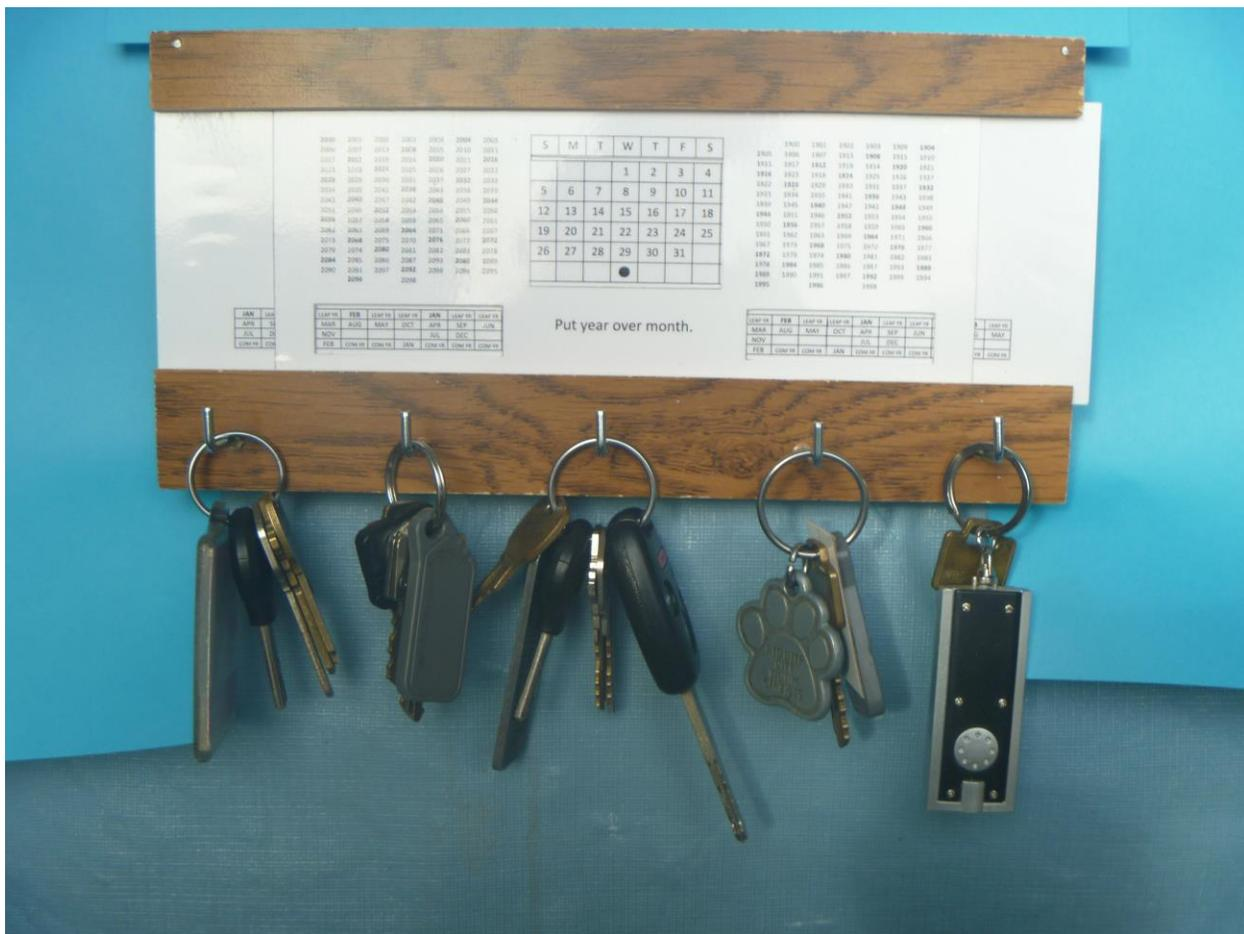
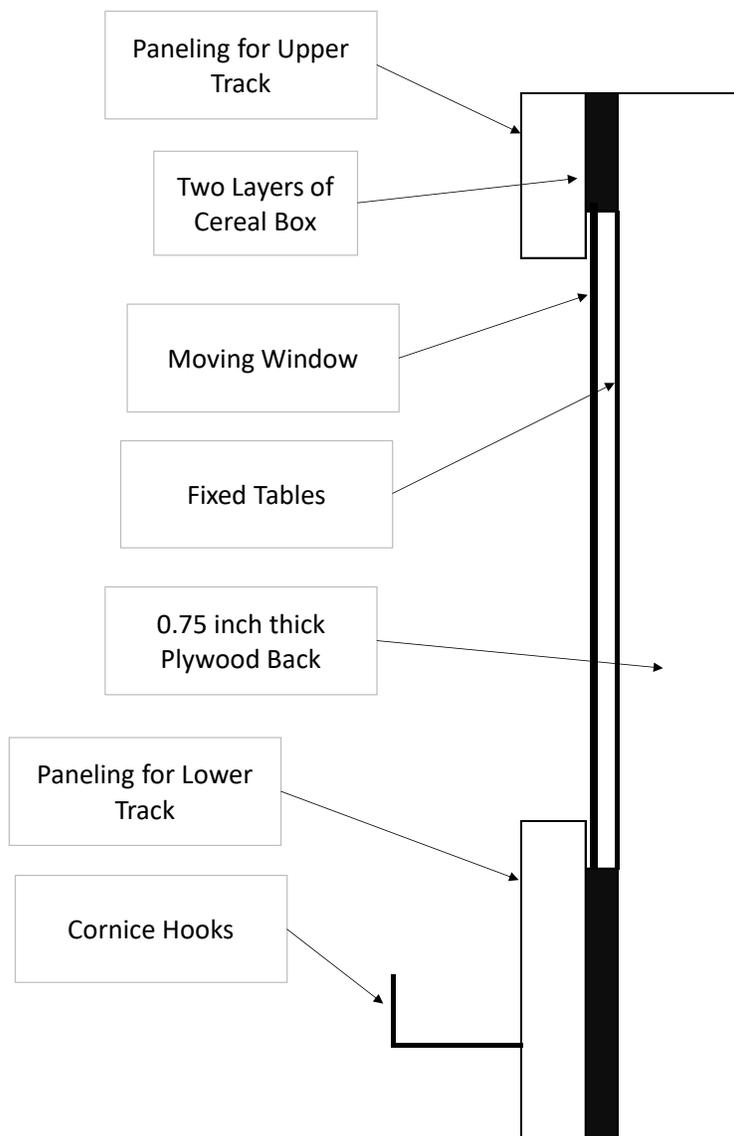
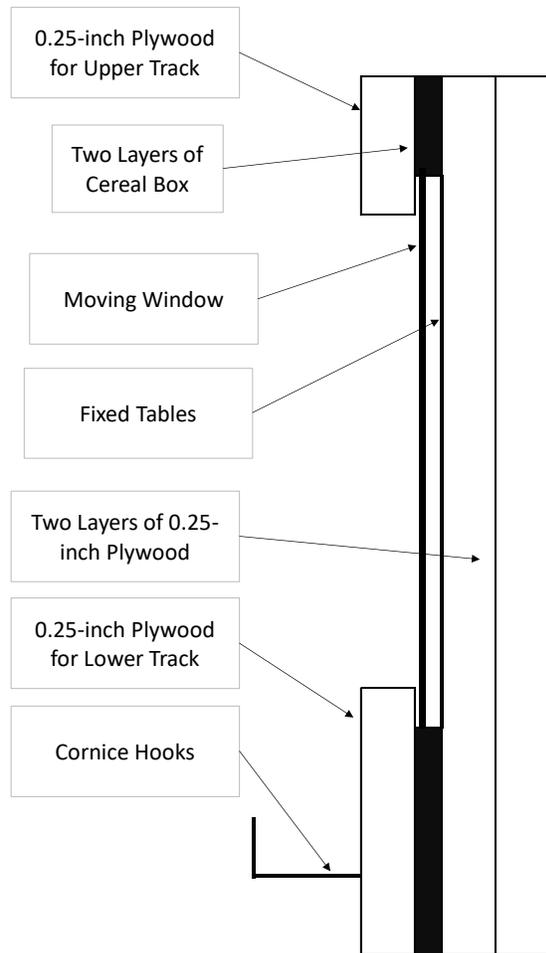

Figure 1: Assembled key holder with keys hanging on it.
Figure 2: Edge view of the featured keyholder
Figure 7: Edge view of keyholder made from 0.25-inch-thick plywood
Figure 1 below is a photograph of the keyholder that is featured in this Instructable. Figure 2 is a drawing of the edge view.
Layers of 0.25-inch-thick plywood can be substituted for the 0.75-inch-thick plywood and 0.125-inch-thick paneling that I used in the keyholder that is featured in this Instructable. The face would look almost the same as the keyboard in Figure 1. Figure 7 is a drawing of the edge view.
The faces of the tracks are made from cardstock covered with laminate instead of paneling or plywood. As can be seen in the photo, I did not print anything on the faces. To improve the appearance, a black and white or coloured design can be printed on their faces. For the back, I used an old maple breadboard and cut out a piece 6.5 inches high by 9.25 inches wide. It was high enough to enable putting the lower track above the cornice hooks. The height can be reduced so that the cornice hooks go through the lower track as they do in Figure 1.
- 0.25-inch-thick plywood. The design shown in Figure 7 is attractive because it uses the same material for the faces as for the back.